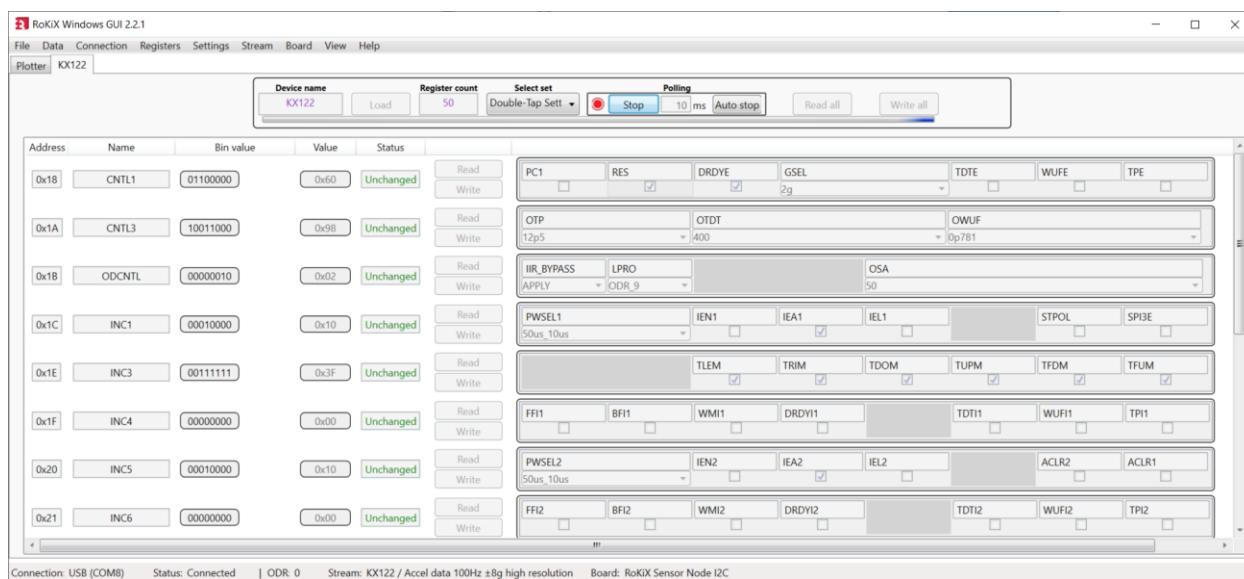

Figure 35: Double tap detection register set.
**NOTE:** Streaming and logging are automatically paused when register polling is started. (Figure 35)